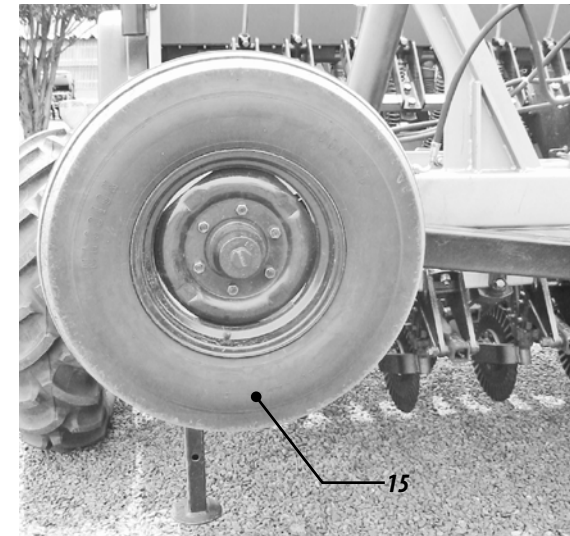

Figure 46
11 - Operate the transport wheelsets (15) to lower the seed drill (key #1 on the panel), figure 46.